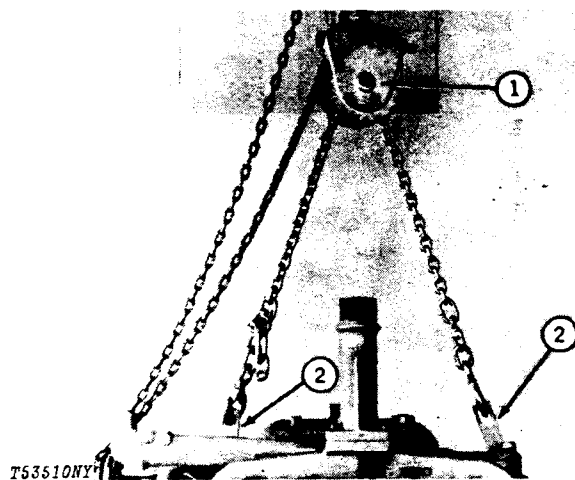

Fig. 7-D01043AA Load Positioning Sling Attached
Attach hoist with D01043AA load-positioning sling (1, Fig. 7) to engine lifting eyes (2).
Remove hoist and sling (1, Fig. 7) from engine.